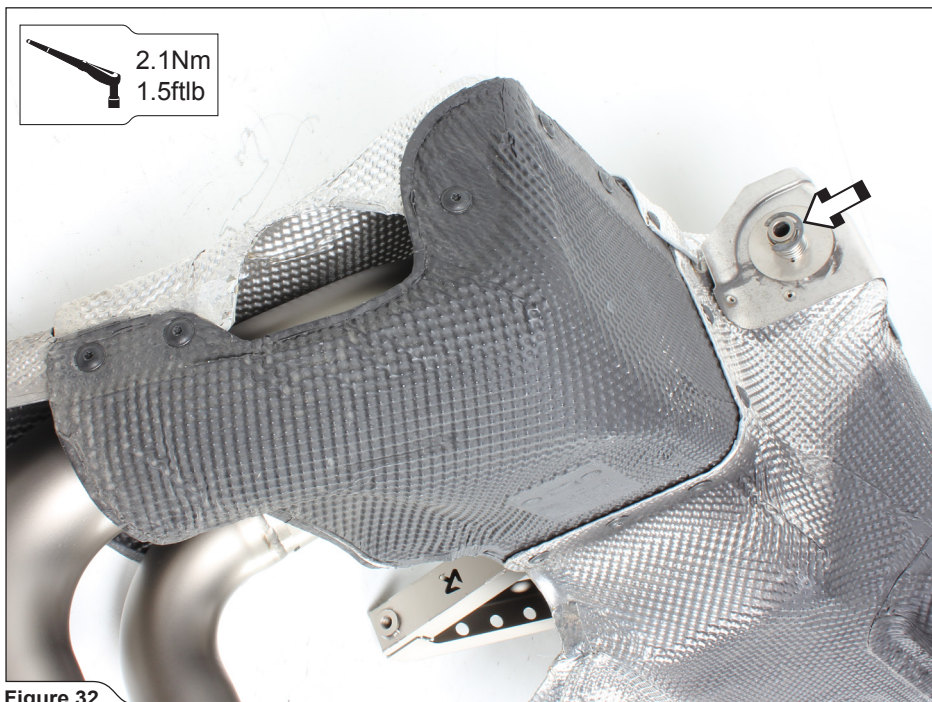

Figure 32
2. Mount the stock muffler's heat shield onto the Akrapovič muffler, using stock washers, springs, spring clips and bolts (Figure 32, 33, 34).